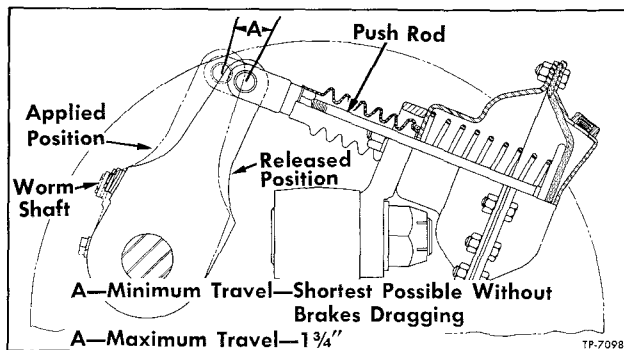

Figure 1—Brake Chamber Push Rod Travel
Service brake adjustment for normal lining wear is made by turning slack adjuster worm shaft (fig. 1). Brake chamber push rod travel should be checked after every 1000 miles of operation to determine whether adjustment is necessary. While maximum travel is permissible, it is advisable to maintain travel as close to minimum as possible, both for braking efficiency and for economy in air consumption. Brake linings should be replaced when they become worn to a thickness of 5/16" at center of shoe.
2. Measure push rod travel from fully released to fully applied position. If travel is approaching maximum shown in figure 1, adjustment is required.